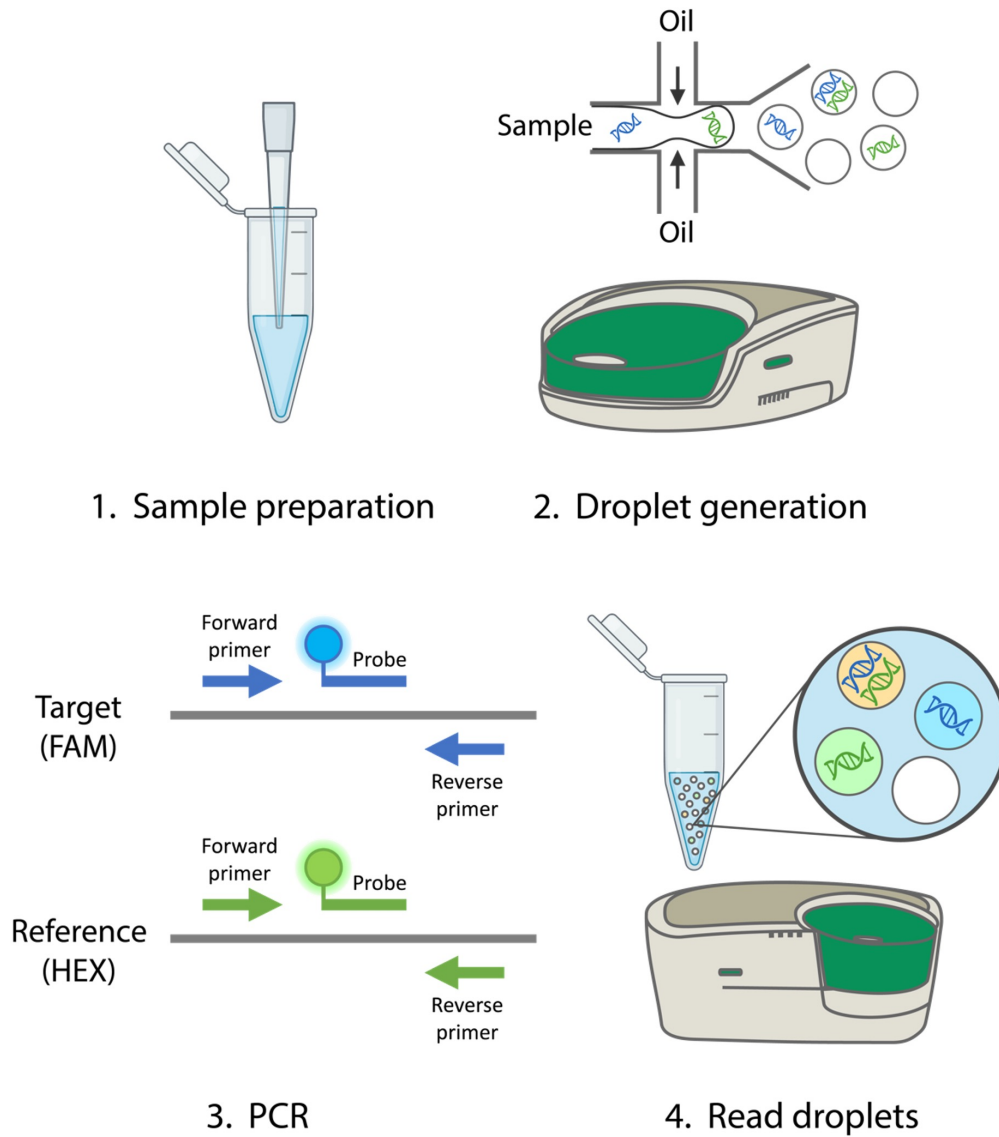
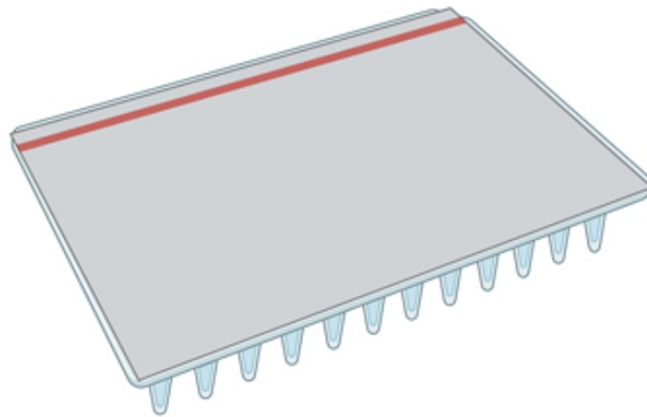

Figure 1. ddPCR workflow ^[1]
Figure 4. 96-well plate covered with foil seal sheet ^[1]
1. Figure 4, and part of Figures 1, 7 are created with **BioRender.com**